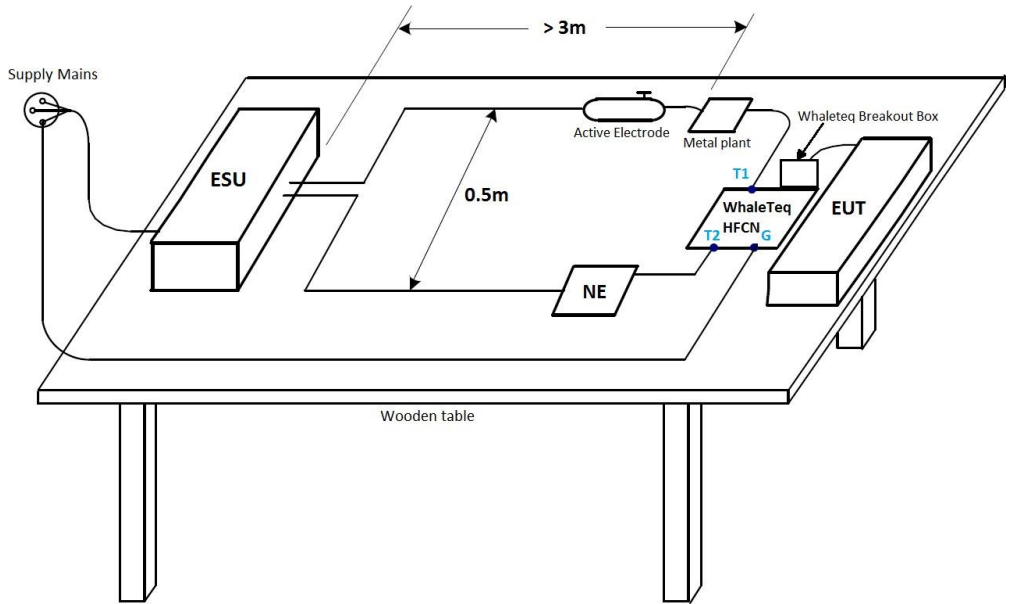

Figure 3. Test setup for HF surgery protection measurement
- Set up the test environment as illustrated in Figure 3
- *Touch the metal plate in the test set-up (see Figures 3) with the active electrode and remove the electrode slowly to get an arc.*
- *Touch the metal plate in the test set-up (see Figure 3) with the active electrode and remove the electrode slowly to get an arc.*